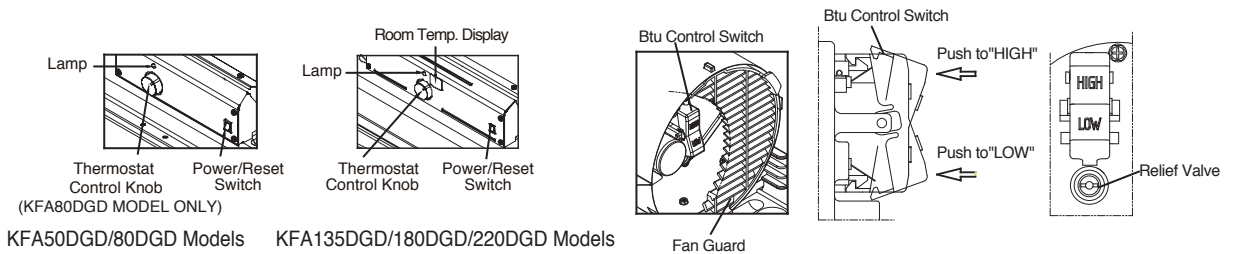

Figure 8. Controls for All Models
- 4) Position the Handles on top of fuel tank flange. Insert screws through handles, fuel tank flange and wheel support frames as shown in Figure 8 and attach nut finger tight after each screw is inserted.
5. Push “BTU control Switch” to desired level “High or LOW” (See Figure 8.) (KFA135/180/220DGD Models Only)